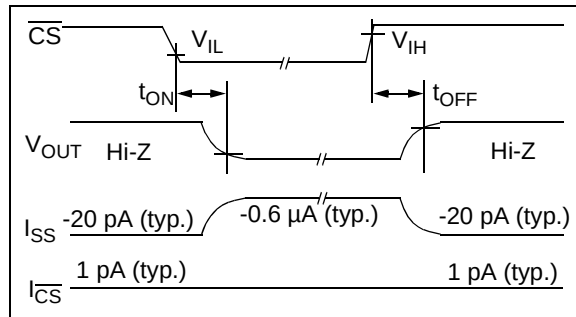

**FIGURE 1-1:** Timing Diagram for the CS Pin on the MCP6543.
**Electrical Specifications:** Unless otherwise indicated,  $V_{DD} = +1.6V$  to  $+5.5V$ ,  $V_{SS} = GND$ ,  $T_A = +25^\circ C$ ,  $V_{IN+} = V_{DD}/2$ ,  $V_{IN-} = V_{SS}$ , and  $C_L = 36$  pF (Refer to Figures 1-1 and 1-3).